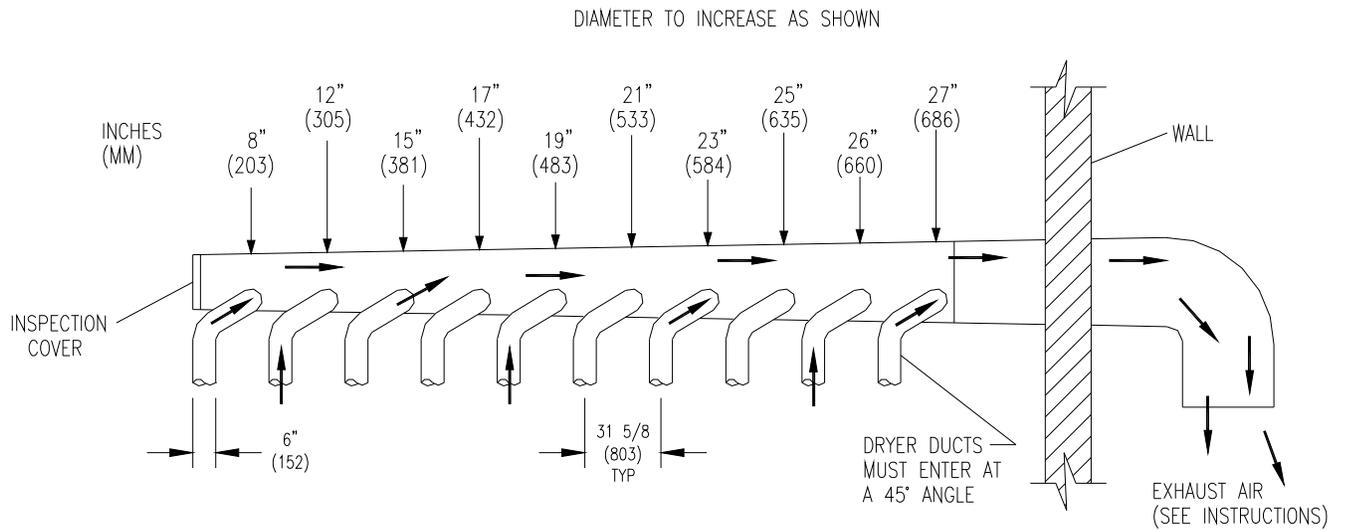

FIGURE 3- Dryer Exhausting Using A Main Discharge Duct.
| Figure 3 - Dryer Exhausting | 9 |
6. **EXHAUST INSTALLATION.** (Refer to Figure 3 at the end of section 6.) Exhausting of the dryer(s) should be planned and constructed so that no air restrictions occur. Any restriction due to pipe size or type of installation can cause slow drying time, excessive heat, and lint in the room.
Installation of several dryers, where a main discharge duct is necessary, will need the following considerations for installation (see Figure 3). Individual 6 in. (152 mm) exhaust ducts from the each dryer should enter main discharge duct at a 45 degree angle in the direction of discharge air flow.
NOTE: Never install the individual ducts at a right angle into the main discharge duct. The individual ducts from the dryers can enter at the sides or bottom of the main discharge duct. Figure 3 indicates the various round main duct diameters to use with the individual dryer ducts. The main duct can be rectangular or round, provided adequate air flow is maintained. The total exhausting (main discharge duct plus duct outlet from the dryer) should not exceed the equivalent of 14 ft. (4.5 m) and two elbows. The diameter of the main discharge duct at the last dryer must be maintained to exhaust end.